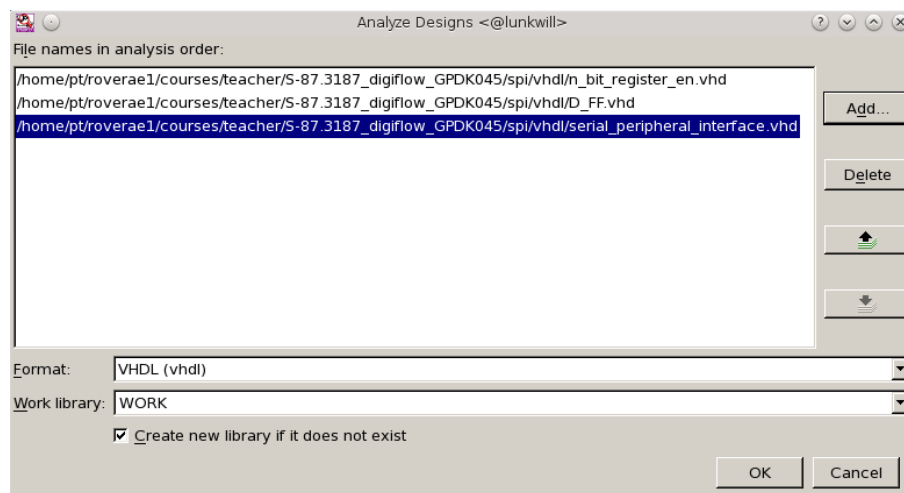

Figure 2.2: Analyze Designs window.
4. Your window should now look like in Figure 2.2.